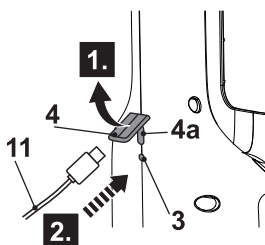

Fig. 4
> Open the charger socket cover (4) (Fig.4 , step 1). Attach the USB-C cord to the charge socket (4a) (Fig.4 , step 2). Ensure it engaged properly.